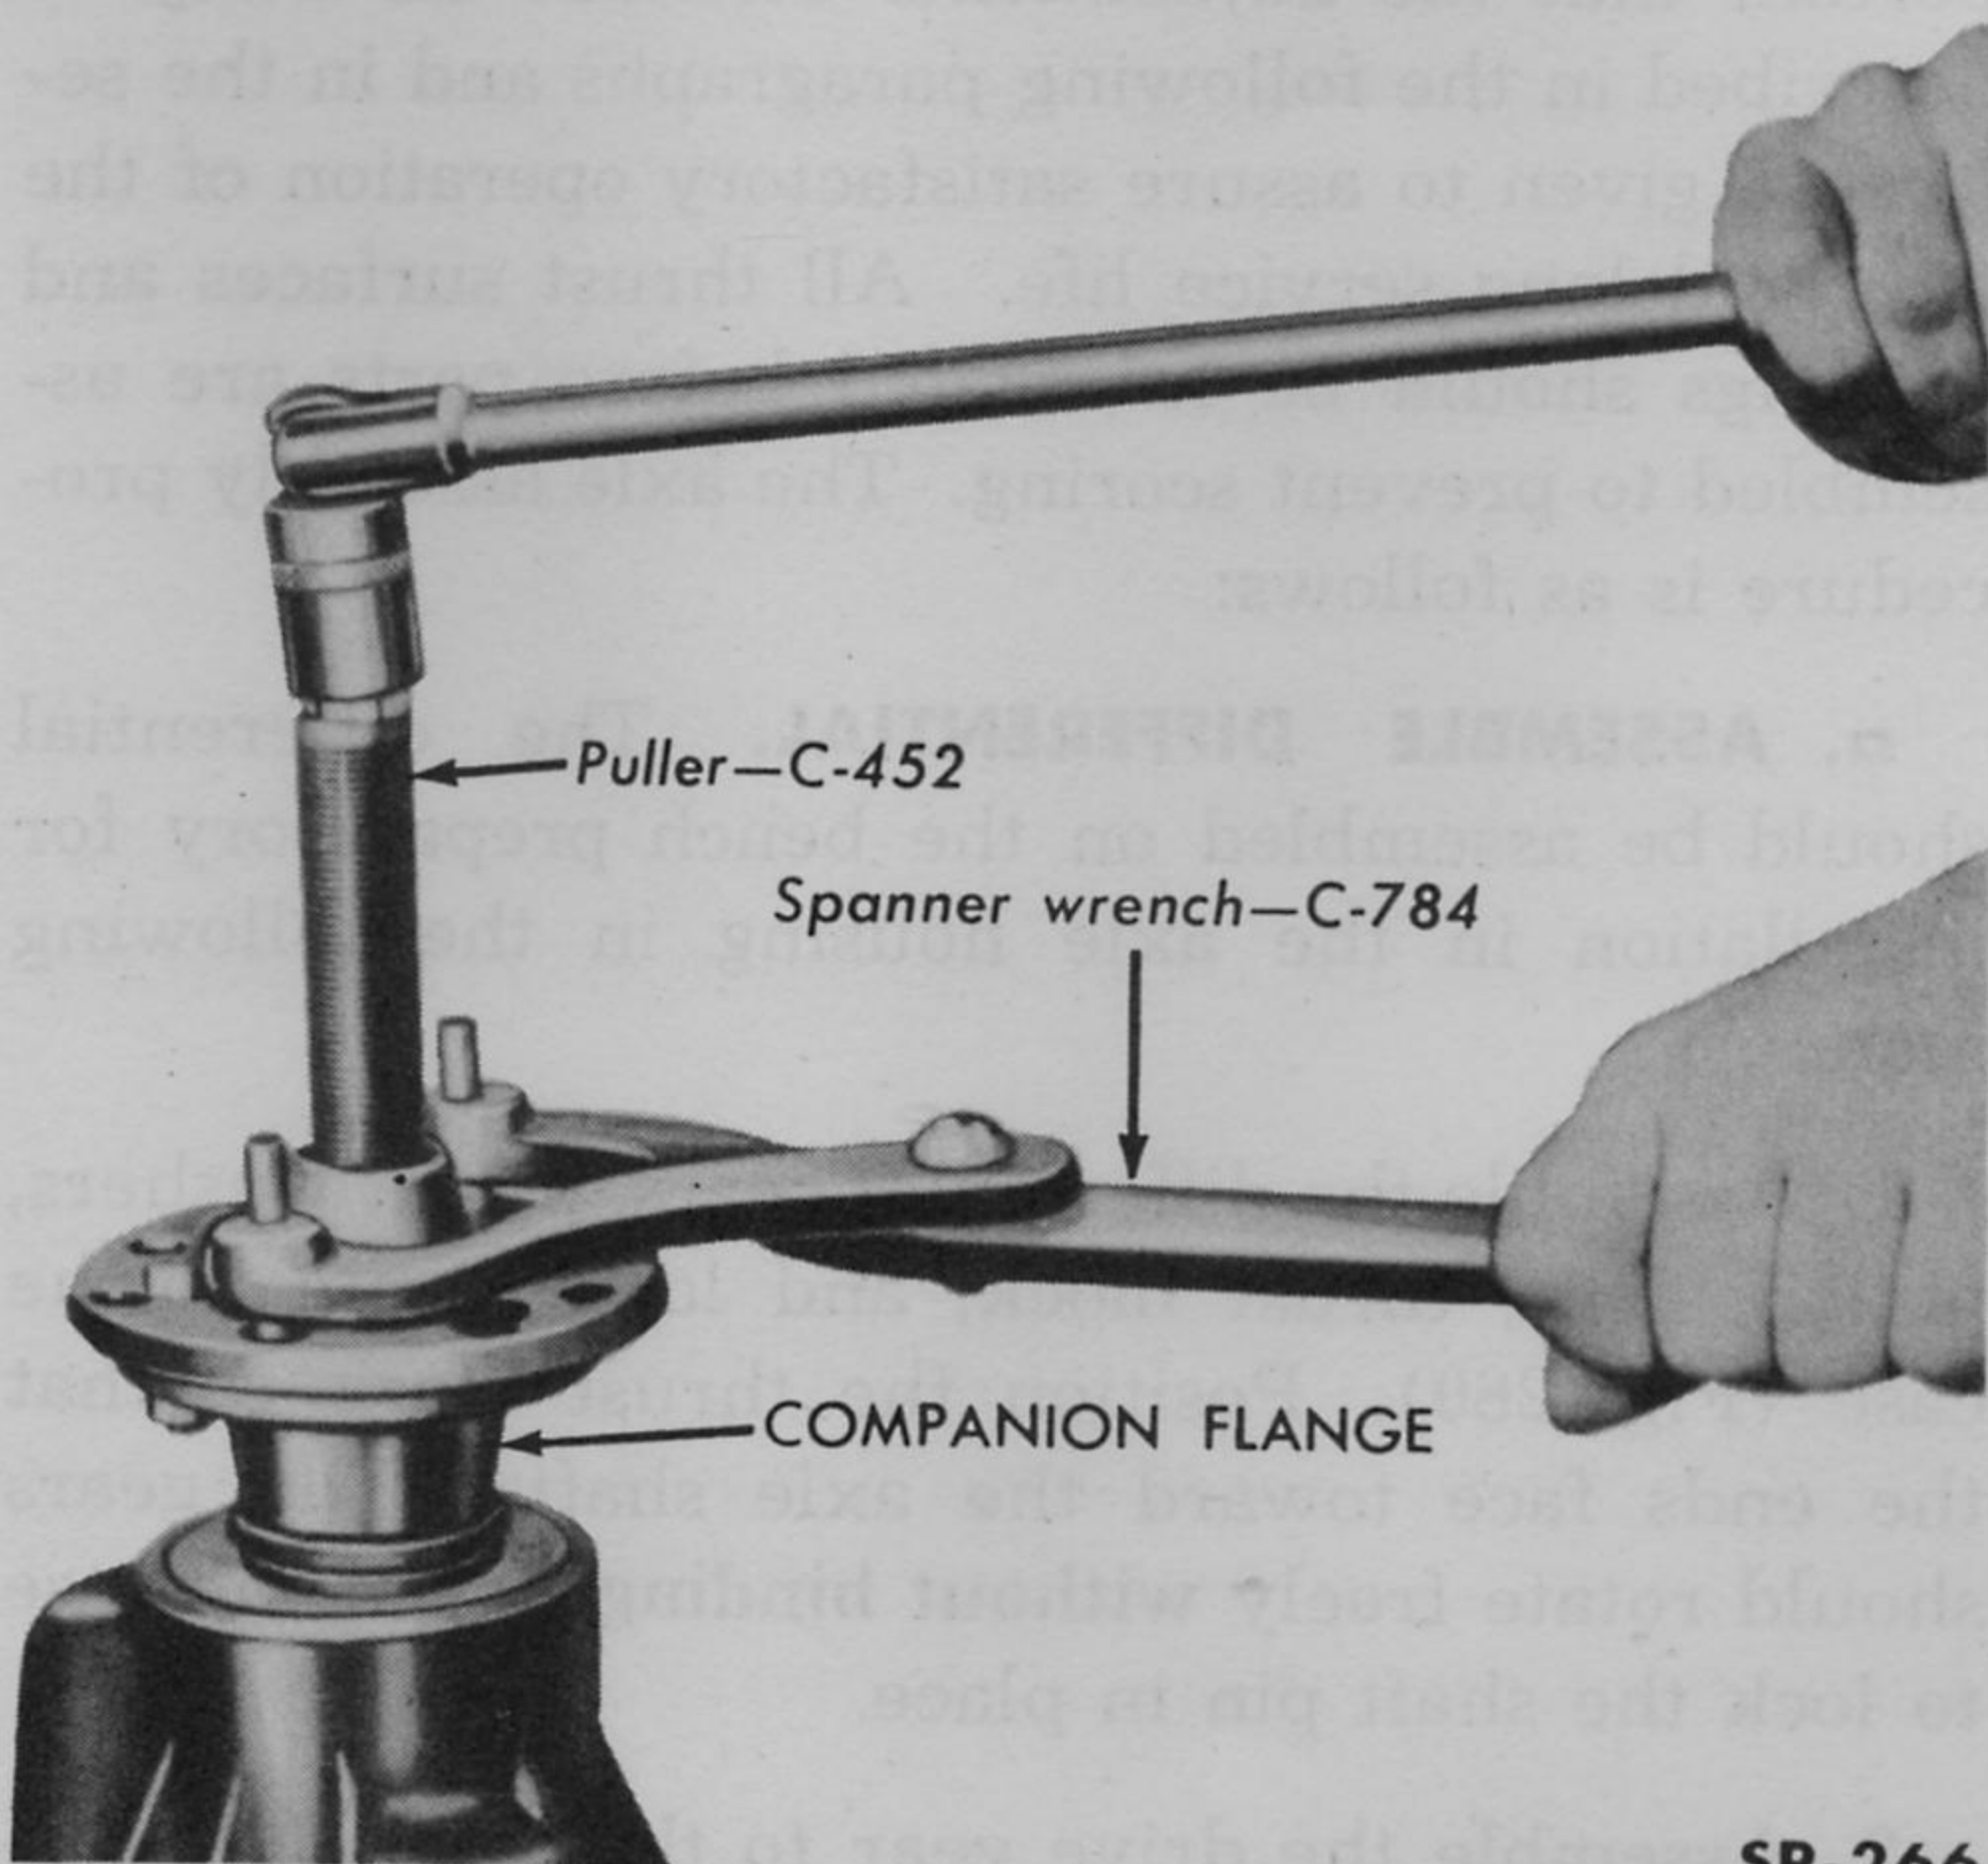

Fig. 263—Removing Companion Flange
2. Remove the companion flange (or yoke), using the C-784 self-adjusting Spanner Wrench, the C-452 Universal Joint Flange Puller, and a suitable socket wrench (Fig. 263).